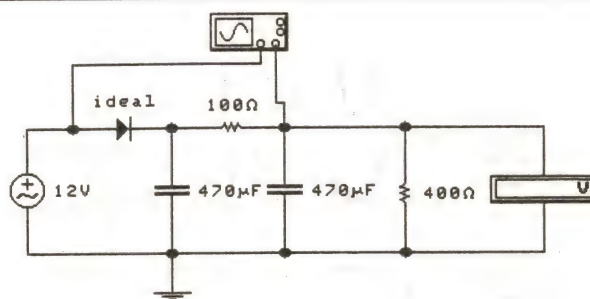

Fig. 3.20 Half-wave rectifier with smoothing filter.
7. Next, add an R-C filter to the circuit by connecting a 100Ω resistor in series with the d.c. output from the rectifier and a second $470\mu F$ capacitor in parallel with the output (as in Fig. 3.20). Once again, note the shape of the output waveform and record the measured value of d.c. output voltage and the peak-peak ripple voltage.